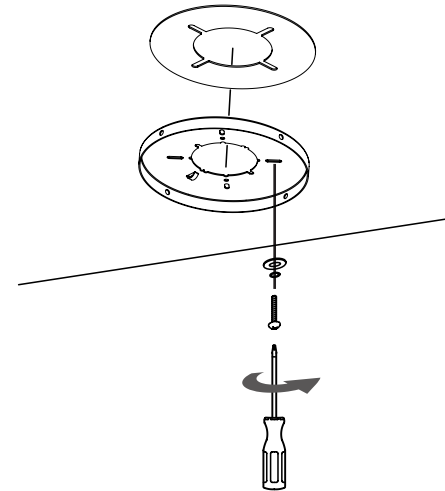

FIGURE 5
4. Secure the hanger plate and hanger gasket to the ceiling outlet box with the screws and washers provided (Fig. 5).